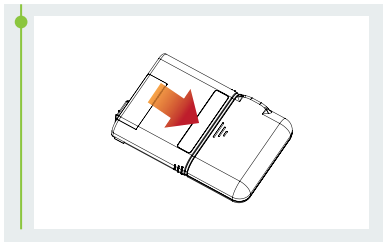

Figure 80
- 2 Separate the used reservoir from the pump (Chapter 7.5), dispose of the old reservoir, and then assemble a filled reservoir and a charged battery to the pump as shown in the animation (Fig. 80). Press Continue to go to the next page.